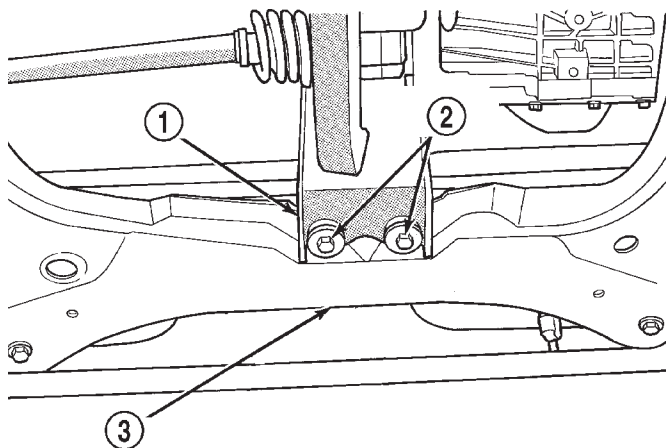

Fig. 16 Engine Support Bracket To Crossmember Attaching Bolts
(15) Remove the 2 bolts attaching the under engine support bracket (Fig. 16) to the front edge of the front suspension crossmember.
(5) Install the engine support bracket on the front of the front suspension crossmember (Fig. 16). Install the 2 support bracket to suspension crossmember attaching bolts and tighten to a torque of 75 N·m (55 ft. lbs.).